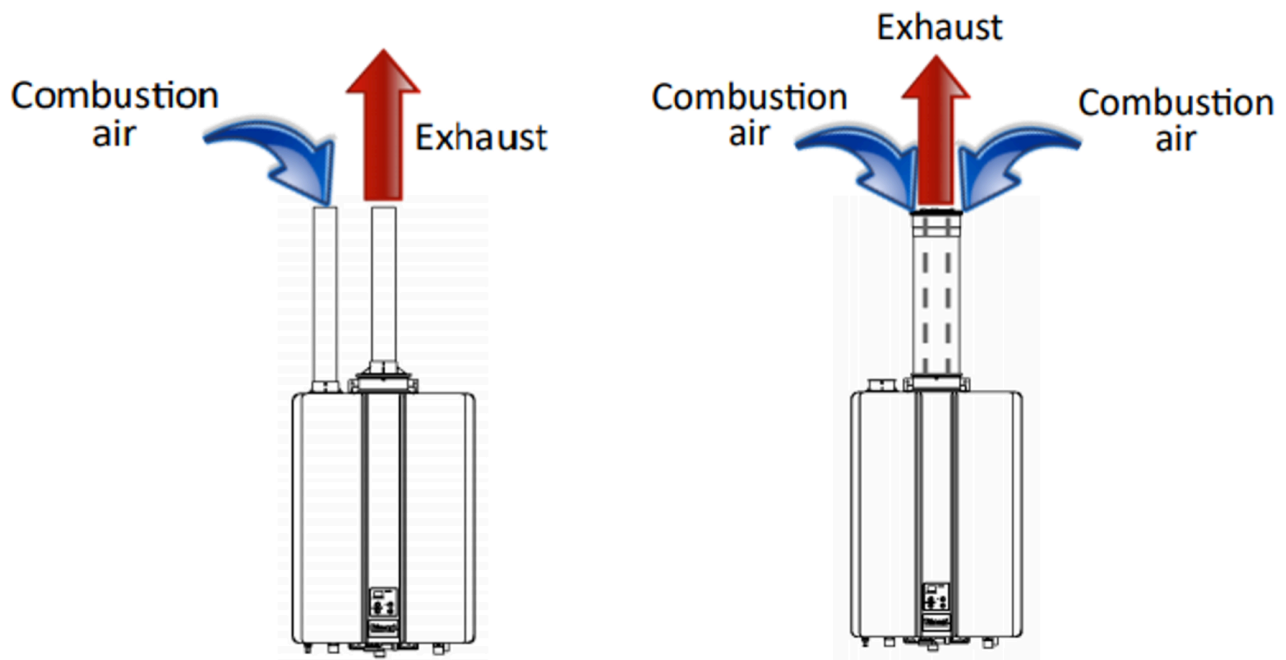

Figure 1. Direct vent appliances
For a direct vent system all of the air for the appliance is taken directly from the outside as well as the flue gas is discharge to outdoors. Therefore, direct vent appliance will have no effect on the air balance of the building. Direct vent systems typically have two piping options either concentric coaxial pipe or twin pipe (Figure 1).
- Figure 1. “Direct vent appliances (<https://gas-geysers-johannesburg.co.za/rinnai-technical-page/>)” from Rinnai is used for educational purposes under the basis of fair dealing.